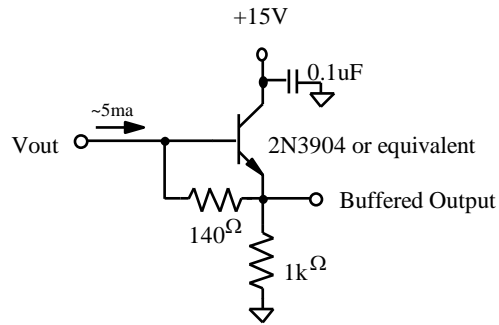

Figure 2: Output Structure Load Diagram
Charge presented to the floating diffusion (FD) is converted into a voltage and current amplified in order to drive off-chip loads. The resulting voltage change seen at the output is linearly related to the amount of charge placed on FD. Once the signal has been sampled by the system electronics, the reset gate (Φ_R) is clocked to remove the signal and FD is reset to the potential applied by VRD. More signal at the floating diffusion reduces the voltage seen at the output pin. In order to activate the output structure, an off-chip load must be added to the Vout pin of the device - Figure 2